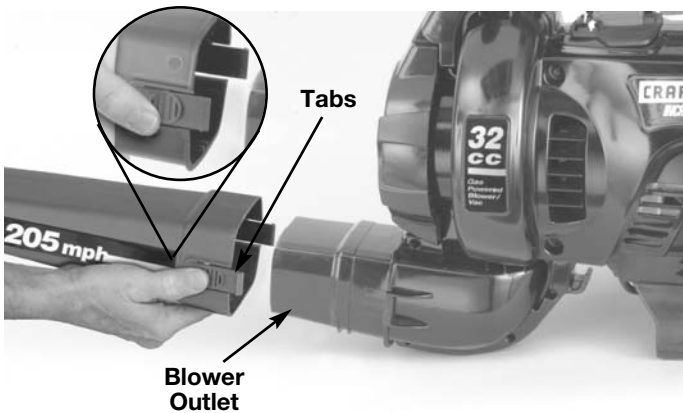

Fig. 1
- Install the blower tube over the blower outlet and push it on until both tabs snap into place (Fig. 1).
- Remove the blower tube by pressing both tabs at the same time and pulling off the blower (Fig. 1).
In order to use the gutter clean-out attachment kit, you must install the gutter clean-out adapter (not included). Push the adapter onto the blower outlet until both tabs snap into place (Fig. 1). Refer to the Gutter Attachment Kit manual for more information